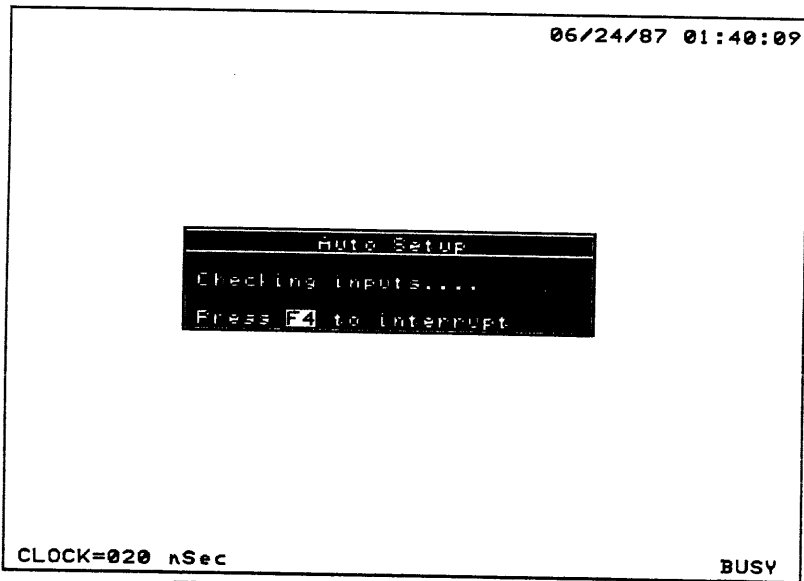

Figure 3-3. Initialization Display
The Auto Setup is a feature that identifies all active inputs and configures the Logic Analyzer to record and display circuit activity. Pressing the SHIFT key and then the CLOCK key executes the Auto Setup (Figure 3-3), reducing setup time and simplifying operation.
2. Press the SHIFT key and then the CLOCK key on the front panel. The Auto Setup Initialization message window is displayed (See Figure 3-3). The Auto Setup takes a series of recordings and performs the following operations: